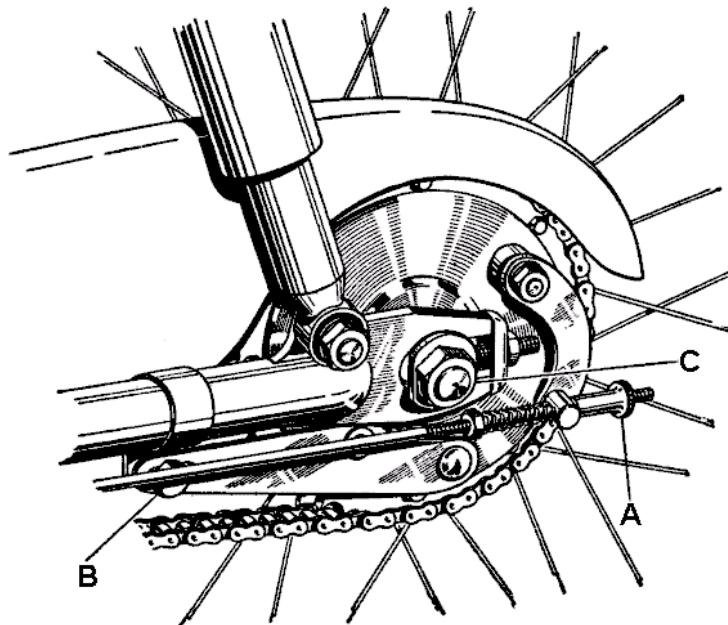

FIG. D31.
Take off the brake rod adjusting nut (A) Fig. D31, and remove the torque arm bolt (B). Disconnect the speedometer cable by unscrewing the union nut at the end of the cable. The inner cable can then be lifted out of the gearbox drive.
Unscrew the spindle nuts (C) Fig. D31, and pull the wheel out of the fork ends, at the same time freeing the brake rod from the swivel pin on the lever. Tilt the machine over slightly towards the left-hand side and remove the wheel from the right-hand side.